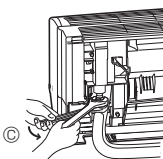

Fig. 3-9
3. Facing the direction in which the L-shaped connection pipe ④ will be removed, make a quick connection to the indoor unit flare connection opening.
4. Tighten the flare nut using a double open-end wrench. (Fig. 3-9)
2. Insert the flare nut that was removed earlier onto the straight pipe side of the cut L-shaped connection pipe ④ and then flare the end of the pipe.
5. Quickly connect the L-shaped connection pipe ④ that has been processed as described in part 2) to the indoor unit flare connection opening.
6. Tighten the flare nut using a double open-end wrench. (Fig. 3-9)